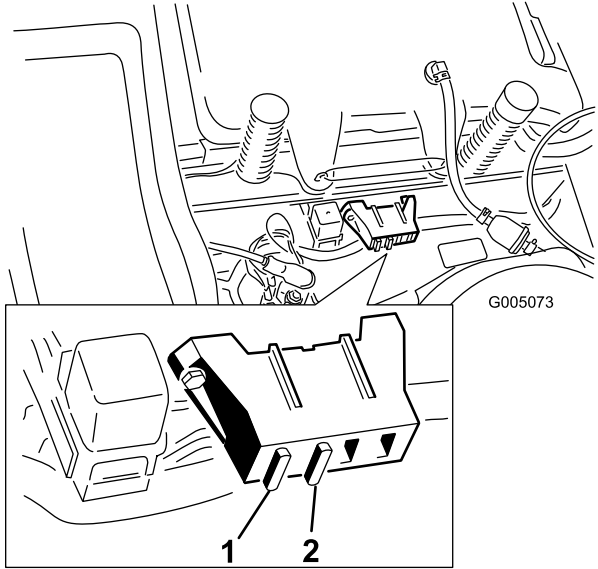

Figure 35
- Raise the seat to gain access to the fuse holder (Figure 35).
- To replace a fuse, pull out on the fuse to remove it (Figure 35).